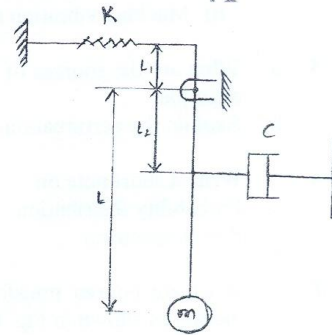

Fig. Q1(b)
- b. A simple Pendulum is pivoted at point 'O' as shown in Fig. Q1(b). Assuming small oscillations and neglecting the mass of rod, find the damped natural frequency of pendulum. (08 Marks)